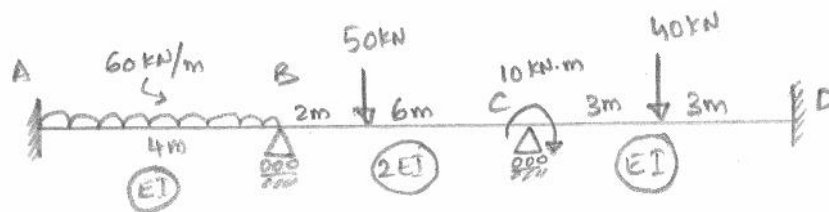

Fig. 6
16. Analyze the continuous beam shown in fig. 6 by any of the matrix method also draw BMD.